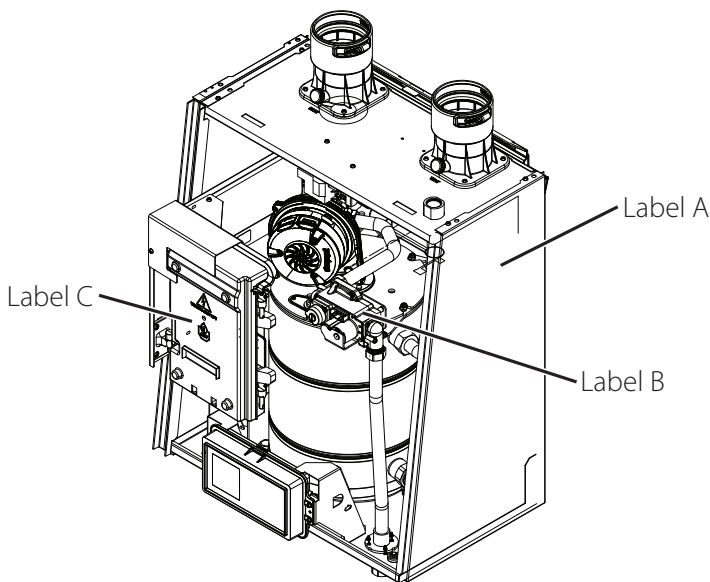

Figure 1 Exalt Wall Hung
- Refer to Figures 1 & 2 on page 2 for correct locations.